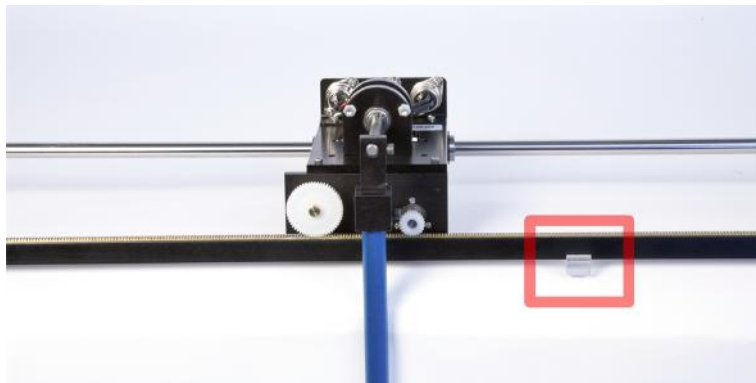

Figure 7.1: IP02 track support
2. Check that the track support, shown in Figure 7.1, is located in the centre of the track